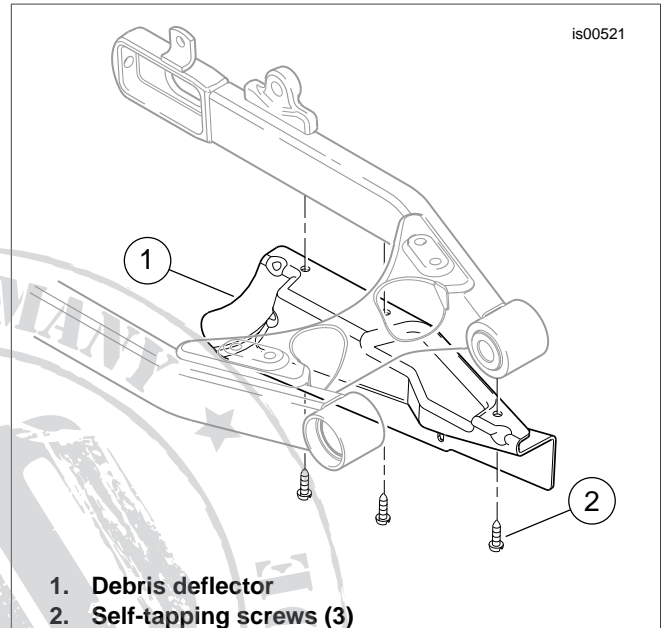

Figure 1. Debris Deflector Removal
2. See Figure 1. Remove the three self-tapping screws (2), and remove the debris deflector (1) from the vehicle.